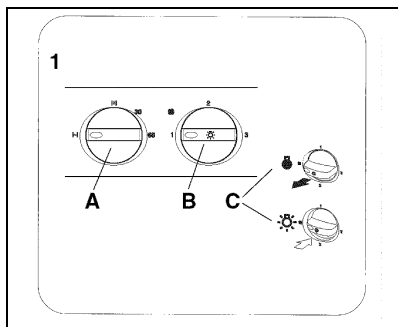

Fig.2
During forced ventilation from the cooker (when cooking) the damper in the cooker hood is opened from switch "A". At the same time the fans will automatically change to MAX fan speed (3) from switch "B" (**Fig.2**).